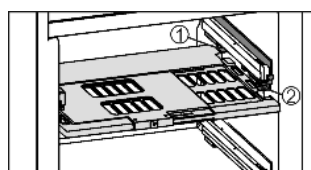

Fig. 18
- ▶ To insert the humidity control plate: Insert the cover mouldings of the plate into the rear holder Fig. 18 (1) from underneath and engage them in the holder Fig. 18 (2) at the front.